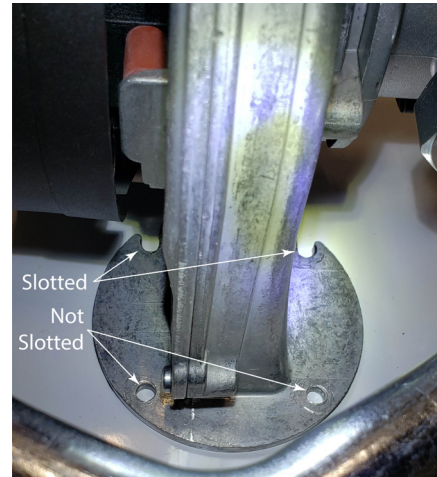

Fig. 4: Blower Bolt Holes
7. The two hard to reach bolt holes under the blower housing are slotted, see Fig. 4. Fully remove the two other 8mm bolts securing the blower to the burner mounting plate. Unscrew the other two bolts only as much as is needed to remove the blower/venturi assembly.